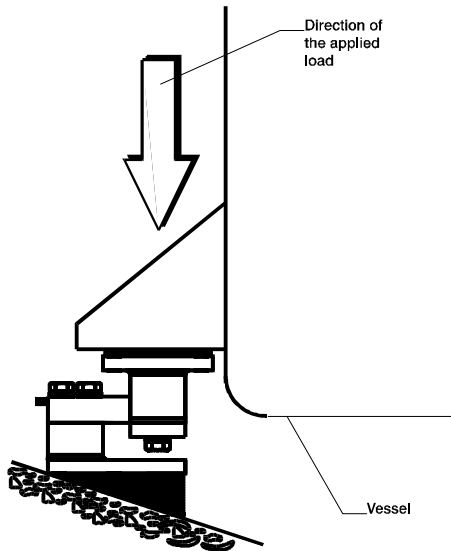

FIG. 5-1 PROPERLY INSTALLED LOAD CELL W/NO BINDING
- a. A load cell must be mounted in such a way that 100% of the load (Vessel w/ Contents) is vertically passed through a load cell. (See Fig. 5-1)